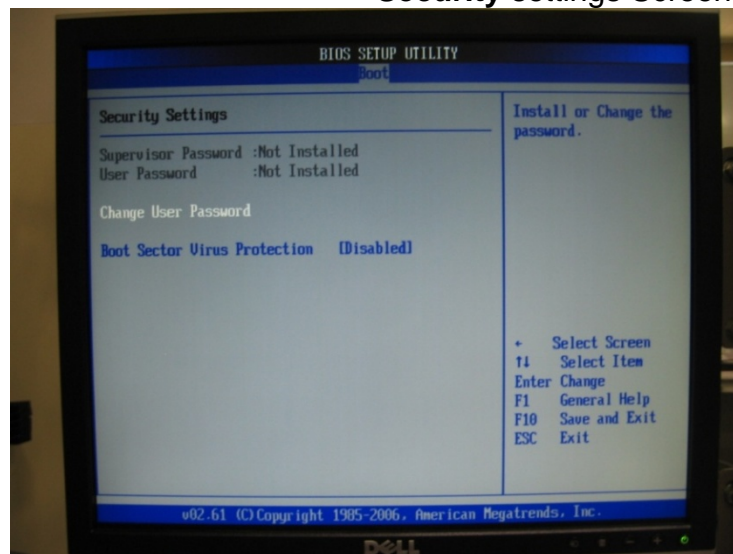

Figure 7-33 Password Screen.
6. On the **Boot** options screen, scroll across and select **Security** tab. Press **Enter**. Change or renew your password then Press **Escape** to return back to the **Security** settings Screen. (Figure 7.33).